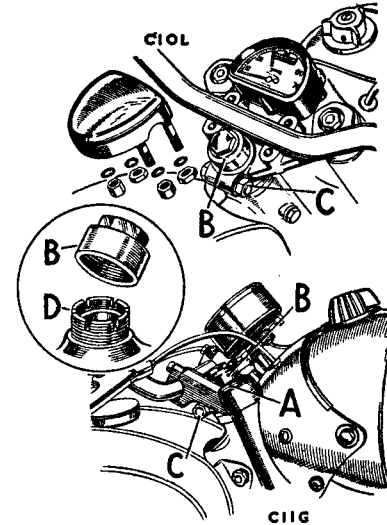

FIG. 46. ADJUSTMENT OF THE STEERING HEAD ON MODELS C10L, C11G AND C12
C10L, C11G AND C12 MODELS. On all models, except the C10L, the steering-stem cap nut B (Fig. 46) is directly accessible, but on the C10L, the nut is covered by a small shield which clamps the handlebars, and this must first be removed by unscrewing the four nuts beneath it. Unscrew the cap, slacken clip bolt C, and release the clip bolts locking the fork legs into the lower steering yoke. This is to allow the yoke to take up a new position on the legs. Tighten sleeve D until the slackness is only just eliminated, retighten the three clip bolts, and replace cap nut B.
Referring now to Fig. 46, unscrew the cap nut B and the fork leg nuts A. Slacken the clip bolt C, and unscrew the adjuster sleeve D two or three turns only. At this point precautions should be taken to support the fork leg assembly because, at the next operation, the steering column will be released. The fork legs are retained in the top yoke by a taper engagement and a sharp blow on the underside of the yoke will free the legs. Still supporting the legs unscrew the sleeve D fully so that the top yoke, together with the handlebars, the upper cone, and its dust shield can be lifted off. Lower the fork assembly, comprising forks, lamp, steering column, etc, until the column can be drawn from below the head. All the
When replacing the column, coat the ball tracks liberally with grease to retain the balls in position. Deal similarly with the upper bearing, then add the dust shield, top yoke, and adjuster sleeve. Screw up the fork leg nuts A (see Fig. 46) firmly. Adjust the bearings so that the column turns freely but without play (see page 84), when the clip bolt (C) can be tightened and the remainder of the assembly completed.
C10L MODEL ONLY. Construction of the forks on this model is slightly different from that for the C12 model, due to the fact that they are not hydraulically damped. Dismantling instructions in general follow those already given, except that the fork nuts A (Fig. 46), require their centre caps to be prised out of position in order to expose the spring locking nut. This must be removed before the main nut can be unscrewed.
Removal of the cups from the steering head does not require an extractor and they can be driven out from the opposite end with a suitable punch. Referring to Fig. 46, the adjuster sleeve D is not used on these models.
A small drain screw is provided at the bottom of each fork leg. Remove the fork leg top nut A (see Fig. 46) which, in addition to holding the leg in position also acts as a filler cap, and then drain out the old oil. To remove the last traces of oil, apply the front brake and depress the forks a few times. Replace the drain plug and add oil as follows—to the C10L (1956), C11G and C12 machines— $\frac{1}{4}$ pint; to the 250 Star machine— $\frac{1}{5}$ pint; to the 250 Star Trials and Scrambles Model— $\frac{1}{3}$ pint. Replace the top nut securely as if this be allowed to become loose, the steering may be adversely affected.
Slacken the clip bolt which clamps the fork shaft to the lower steering stem yoke, and unscrew the cap nut at the top of the fork (see Fig. 46). This nut pulls the shaft into a taper seating in the top yoke, and to release it insert a screwed plug into the thread exposed by removal of the cap nut. A sharp blow on the end of the plug will release the fork shaft, which can then be drawn through the lower yoke. A suitable screwed plug is incorporated in service tool Part No. 61-3350, the use of which will be essential when the time comes to replace the shaft, because of the powerful spring which has to be compressed.
The fork shafts are clamped into the lower steering yoke and when these bolts have been removed, unscrew the cap nut A (see Fig. 46), and withdraw the spring. Service tool Part No. 61-3350 should now be screwed into the internal thread in the top of the fork shaft and its end struck a sharp blow with a hammer, thus freeing the shaft from its taper seat in the top steering yoke, allowing it to be drawn downwards through the bottom yoke.